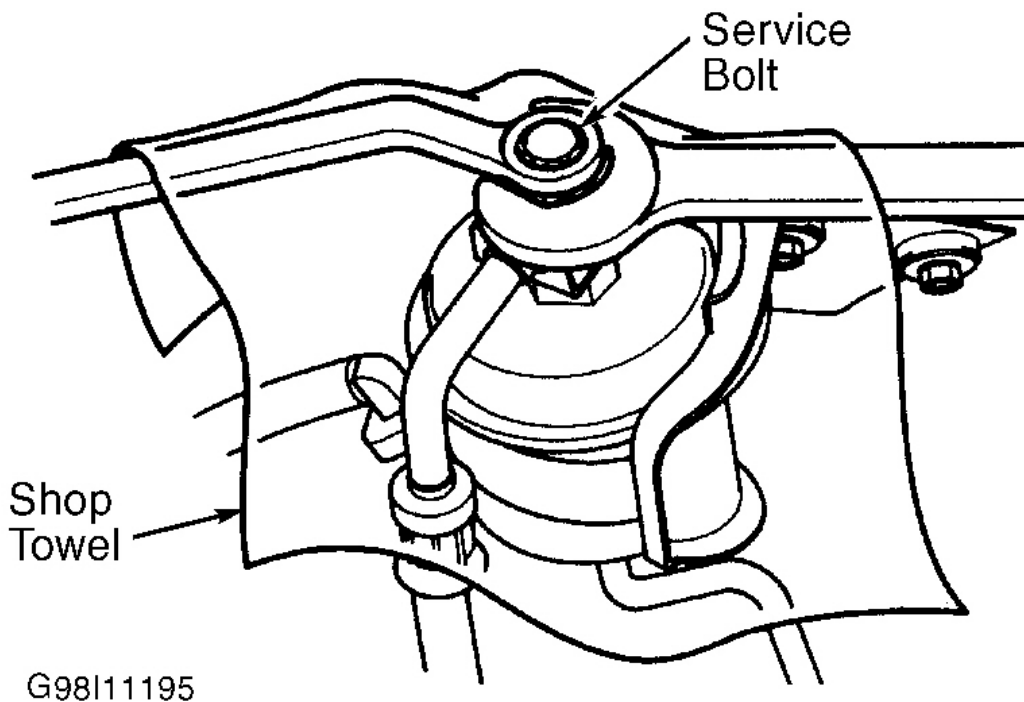

Fig. 5: Releasing Fuel System Pressure
1. Remove fuel tank filler cap. Place a shop towel on top of fuel filter. Release fuel system pressure by slowly loosening 12-mm banjo bolt. See **Fig. 5**. Always replace washer(s) between service bolt and banjo bolt whenever bolt is loosened.